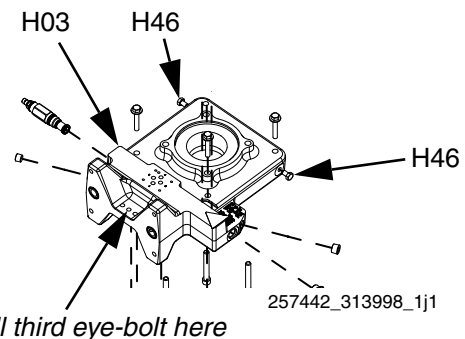

FIG. 10
6. Remove the two bolts (H46) from the fluid housing (H03) and replace each with a strong 5/16-18 thread eye-bolt. Install a third strong 5/16-18 eye-bolt as indicated. See **FIG. 10**. See **FIG. 8** on page 25 for full hydraulic power pack view.
5. Remove eye-bolts. Install original bolts (H46) into fluid housing (H03). See **FIG. 10**.